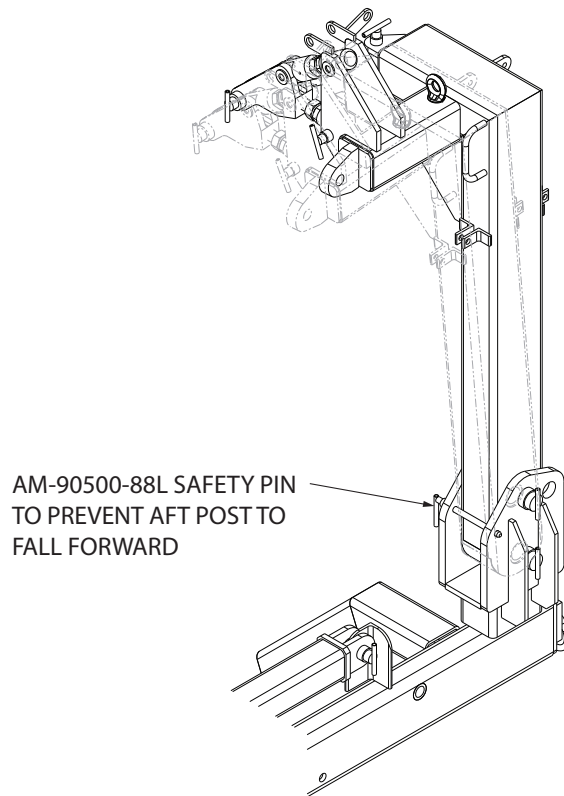

Figure 5.2-4
Two (2) AM-90500-88L safety pins (IPB Figure 3 - Item 11) are installed on the FWD side of the two AFT post mounting brackets on the cradle to prevent the AFT posts to fall forward. (Figure 5.2-4).